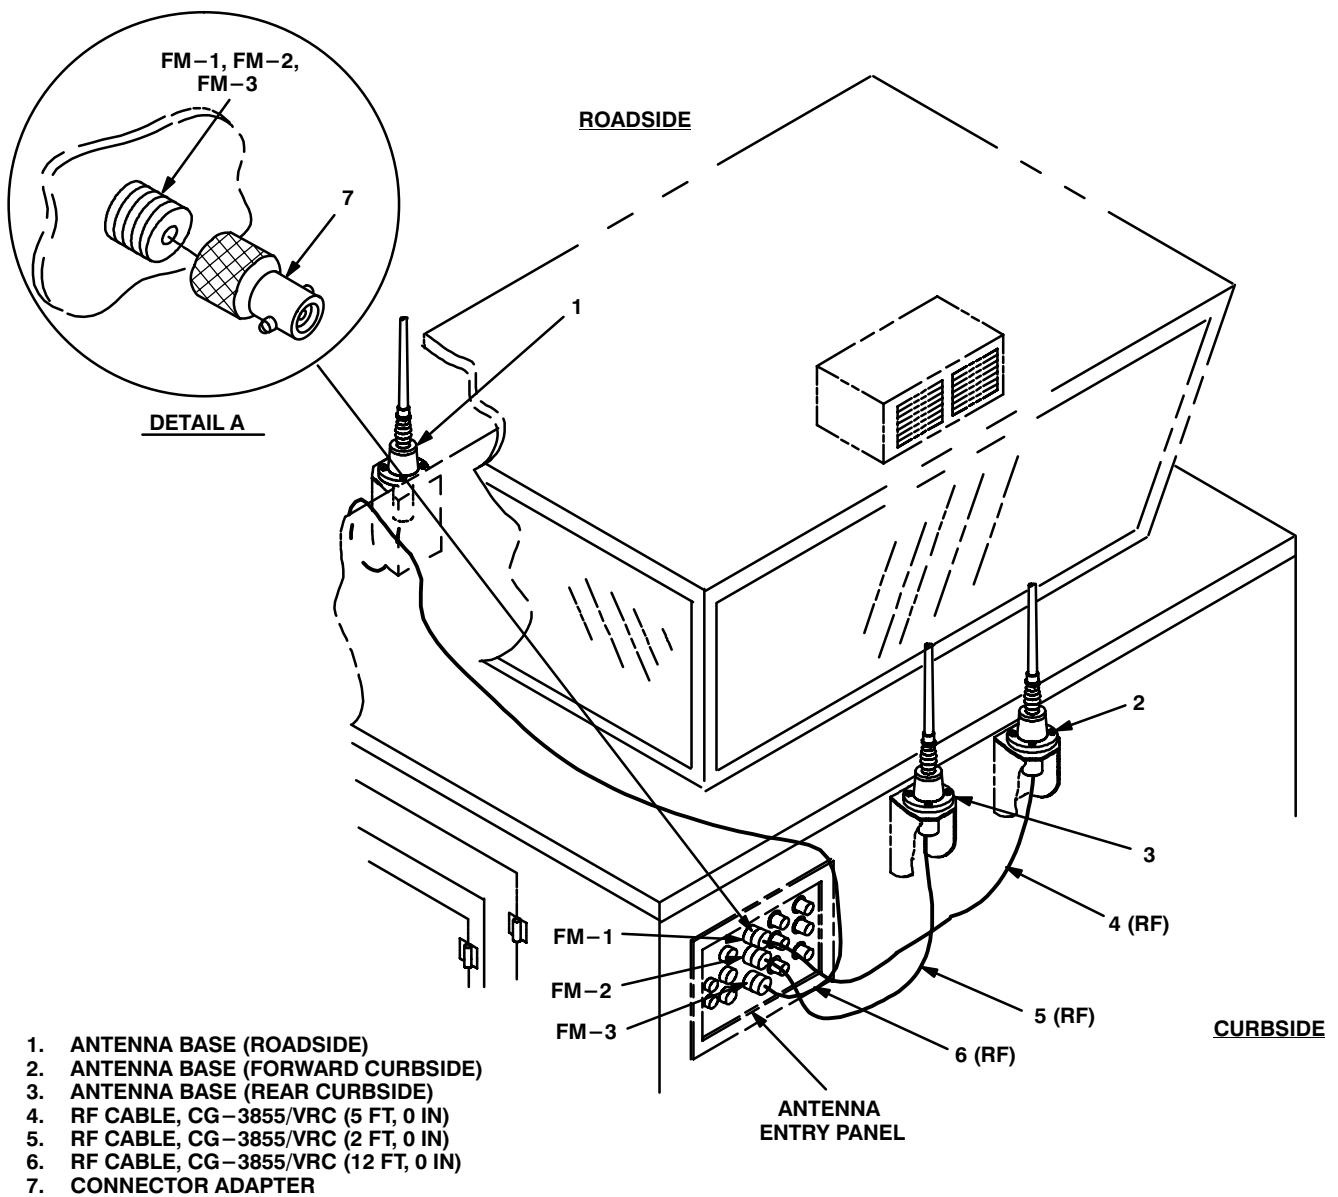

Figure 5-5 (1). Cable Installation: Exterior Cabling
a. Three connector adapters (7).	Connect and secure to antenna entry panel connectors FM-1, FM-2 and FM-3. See figure 5-5 (1) and figure 5-5 (1), detail A.r